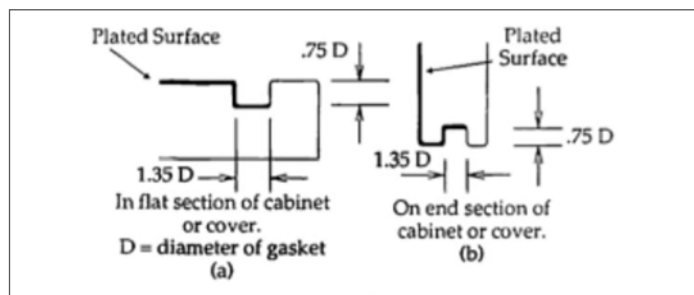
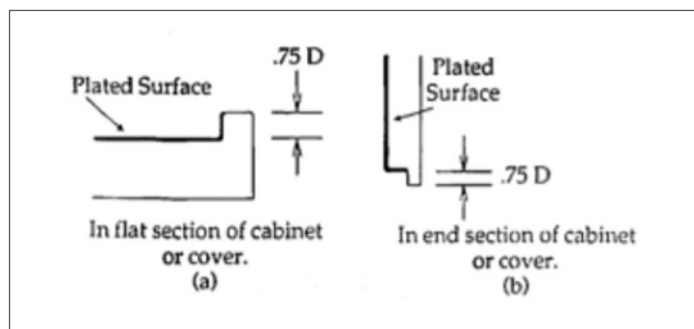
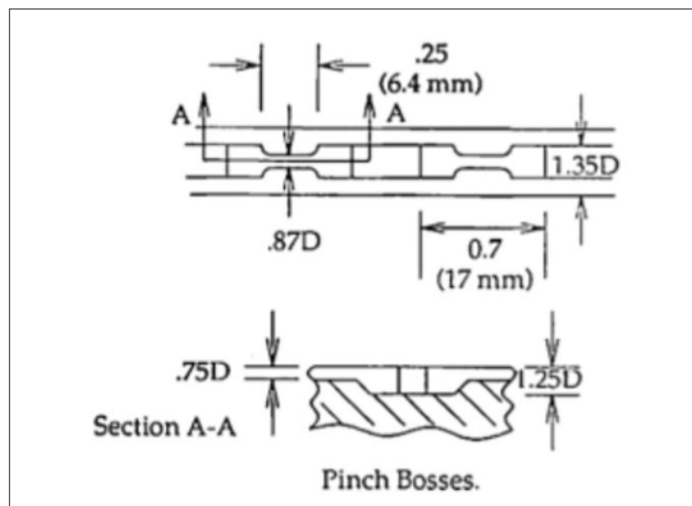
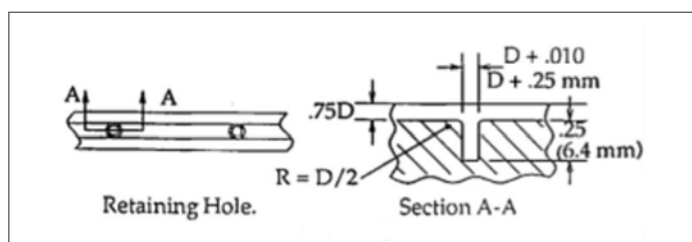

Figure 6.
Figure 7.
Figure 8.
Figure 9.
In using the convoluted spring gasket material, (or any similar EMI gasket material), a groove must be provided in the die or mold to house the gasket. The recommended groove is illustrated in *Figure 6* where the width of the groove is about 35% wider than the gasket material and the depth is about 75% of the width (diameter) of the gasket material. *Figure 7* also illustrates a method, which has been effectively used to protect the gasket.
The grooves or configurations of *Figures 6 and 7* provide a place for the gaskets to sit. However, provisions must be made to hold the gasket materials in place. This is accomplished by providing pinch bosses or retaining holes along the groove. The pinch bosses are illustrated in *Figure 8* and retaining holes in *Figure 9*. Because the requirements are relatively easy to comply with, continuous gasketing throughout the length of the joint is not required (i.e., small segments along the length of the joint can be used effectively). The actual optimal length and number of segments of EMI gasket material will not be known until the EMI testing on a finished prototype equipment is completed. One (1) to 1-1/2 inch segments on one (1) or two (2) of the four (4) sides of a small cover is often sufficient. The grooves of *Figure 6 and 7* must be placed in the die or mold during the early design phases. The pinch bosses or retaining holes can be placed in the die or mold after the EMI testing is completed and optimal required gasketing is known.